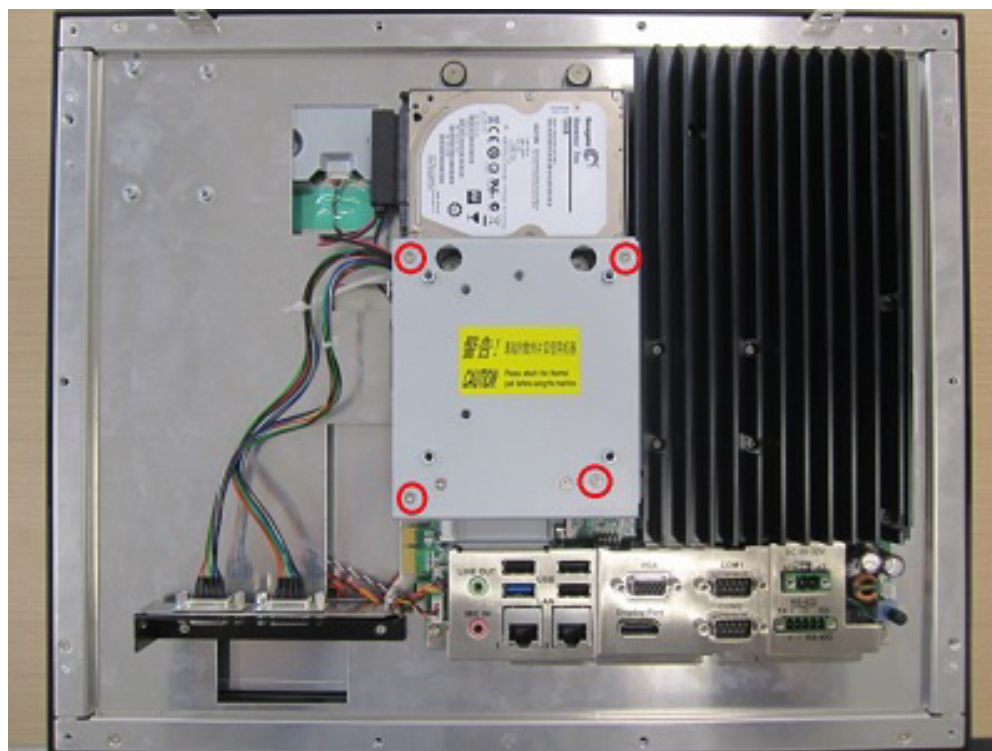

Figure 2.57
4. Affix the shield with COM connectors to the expansion slot backplate and secure in place using a screw. Connect the two COM cables to the mainboard and secure with cable ties (see Fig. 2.57).